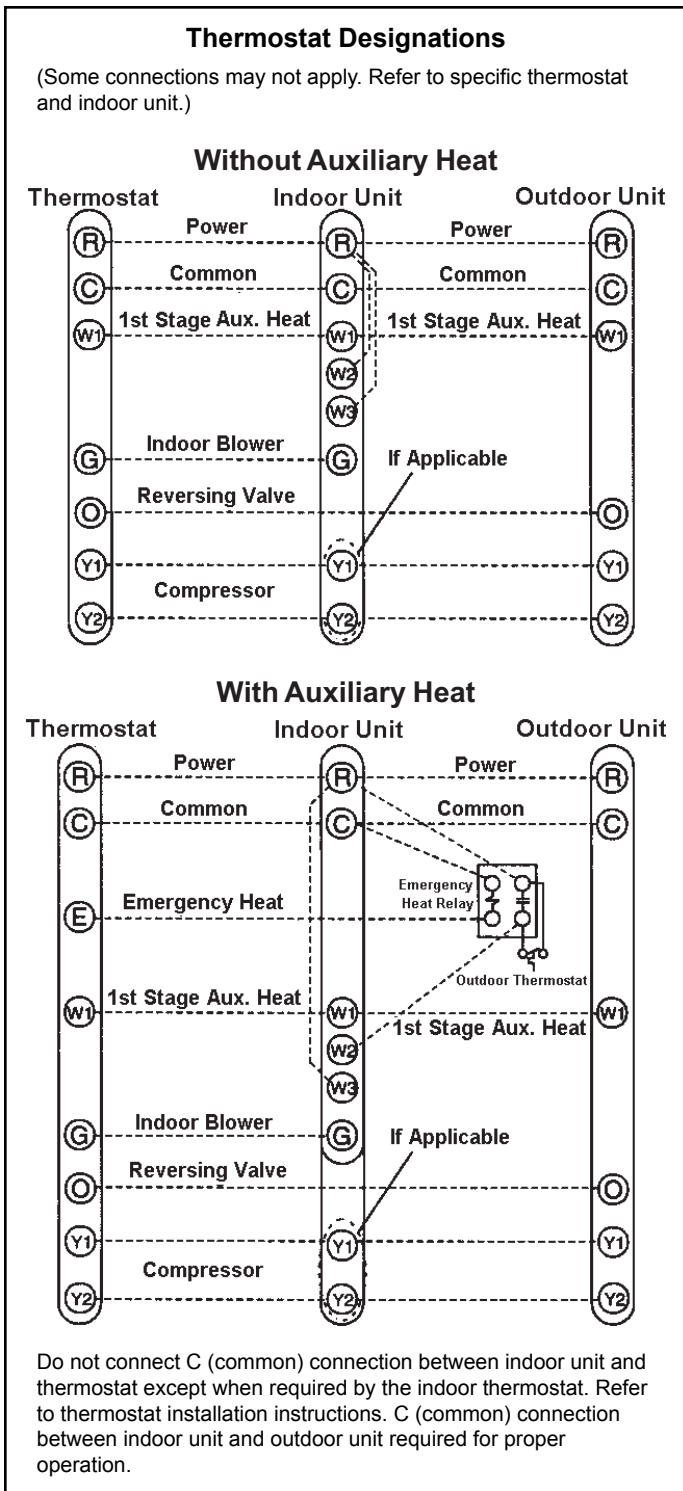

Figure 3. Thermostat Designations
4. Install low voltage wiring from outdoor to indoor unit and from thermostat to indoor unit (see Figure 3).